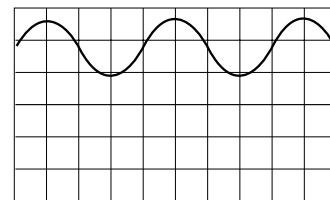

Figure 10
- ④ Set U_{mod} , the center knob on the Control Unit, to zero, then slowly vary U_0 , the left knob, from 0 to 10 V and observe the trace on the oscilloscope. It should be a clean, straight line, showing that the DC component of the current to the Helmholtz coils is constant. (U_0 controls the DC current going to the Helmholtz coils.)
- ⑤ Set U_0 at approximately midscale, then turn U_{mod} clockwise, to increase the AC component of the current to the Helmholtz coils. The trace on the oscilloscope should now show a smooth sine wave, as in Figure 10, corresponding to an AC magnetic field that is superimposed upon a constant DC field.